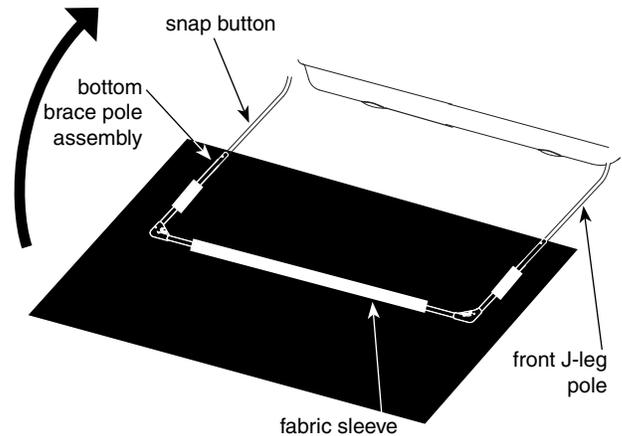

FIGURE 8
4. Unfold the skin and locate the Eskimo logo near the zippered door, which is the front of shelter. With the front of shelter skin laying face down on the ground, in front of shelter, locate the (3) fabric sleeves sewn to the bottom seam on front side of shelter. Slide the 54.52" horizontal assembly pole (68189) through the long fabric sleeve. Insert the horizontal assembly pole into (2) plastic corner pieces by lining up snap button with snap button holes in plastic corner pieces. Snap into place. Pole will have a snug fit and may shave some interior plastic off. This is by design for a good fit. **SEE FIGURE 8.**
5. Insert (2) 25.14" vertical assembly poles (68185) through the short fabric sleeves and into the previously assembled horizontal pole/plastic corner assembly by lining up snap button with the snap button holes in plastic corner pieces. Snap into place. Poles will have a snug fit and may shave some interior plastic off. This is by design for a good fit. **SEE FIGURE 8.**
6. Take the J-hinge poles from each hinge assembly and insert them into the assembled bottom cross brace pole assembled in step 5. Push snap buttons inward and allow cross brace to snap into place. **SEE FIGURE 8.**
4. Unfold the skin and locate the Eskimo logo near the zippered door, which is the front of shelter. With the front of shelter skin laying face down on the ground, in front of shelter, locate the (3) fabric sleeves sewn to the bottom seam on front side of shelter. Slide the 67.52" horizontal assembly pole (68191) through the long fabric sleeve. Insert the horizontal assembly pole into (2) plastic corner pieces by lining up snap button with snap button holes in plastic corner pieces. Snap into place. Pole will have a snug fit and may shave some interior plastic off. This is by design for a good fit. **SEE FIGURE 8.**
5. Insert (2) 29.64" vertical assembly poles (68187) through the short fabric sleeves and into the previously assembled horizontal pole/plastic corner assembly by lining up snap button with the snap button holes in plastic corner pieces. Snap into place. Poles will have a snug fit and may shave some interior plastic off. This is by design for a good fit. **SEE FIGURE 8.**